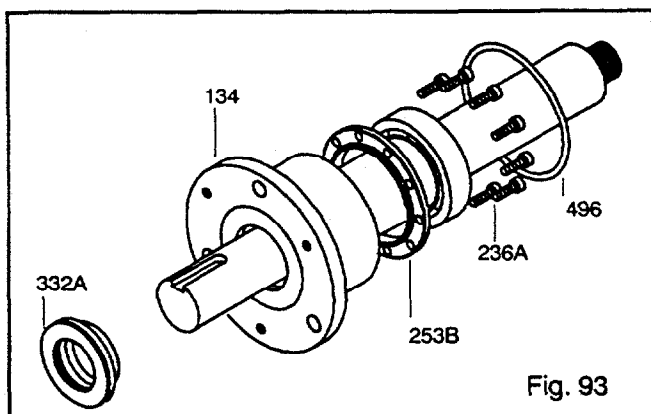

Fig. 93
10. Install clamp ring (253B) with bolts (236A). Tighten bolts in a criss-cross pattern. Check shaft for free turning. Refer to Table 9 for bolt torque values (Fig. 93).
11. Install new O-ring (496).
12. Install outboard labyrinth oil seal (332A) into bearing housing (134). It is an O-ring fit. Position the labyrinth seal drain slots at the bottom 6 o'clock position (Fig. 93).